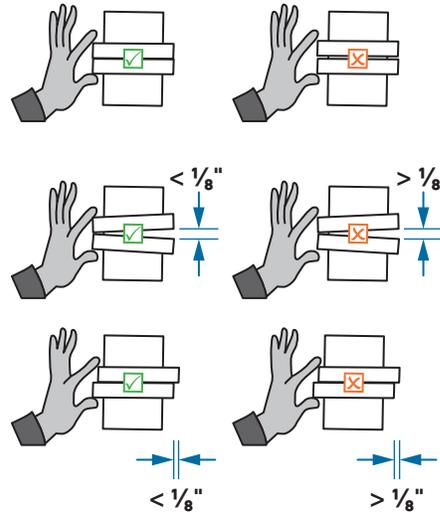

Figure 4-9: Check system alignment via pinch test
1. Check the gap between flange faces by pinching the two mating components toward each other with one hand as shown in **Figure 4-9**. If the faces can be made to touch, then the gap between them is acceptable.
2. Check the angle between the flange faces. If the faces are completely flush when pinched together, as shown in **Figure 4-9**, the alignment is perfect.